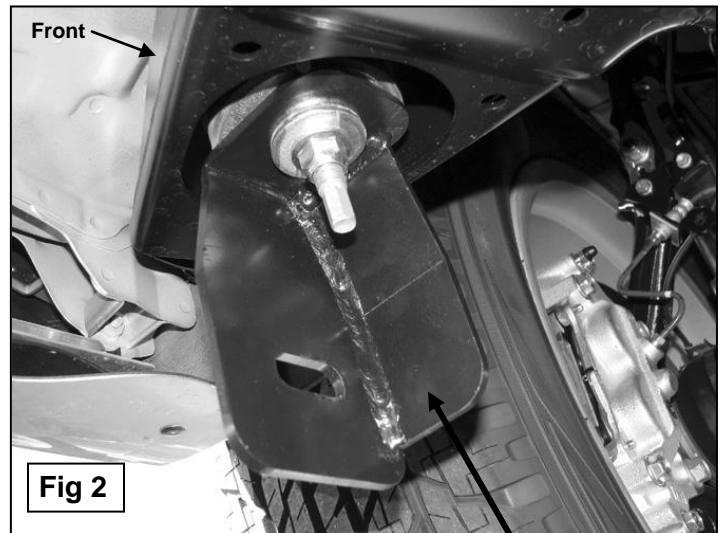

Fig 2
3. Loosely attach the front driver side Mounting Bracket using the factory nut and washer. **NOTE:** Keep factory rubber bushing and other factory body mount components in place, (Figure 2). Line up the center bolt with the middle of the mounting slot in the Mounting Bracket. Do not tighten hardware at this time. Repeat Steps 2 & 3 for driver side rear Mounting Bracket installation, (Figure 3).